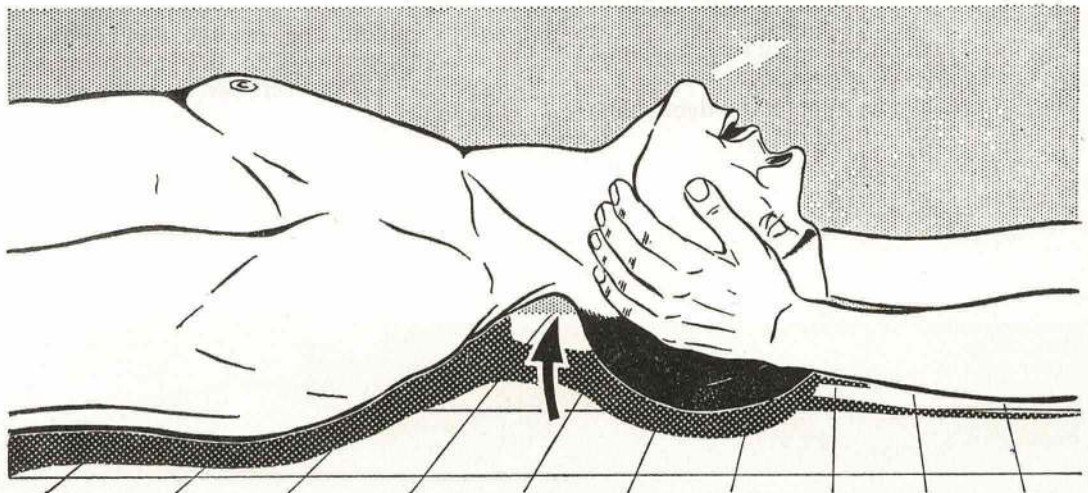

Fig. 11. IMPROVING AIR PASSAGE
50. The urgency of inflating the casualty's lungs, even though the air has to be blown past an obstruction in the throat or windpipe, cannot be overstressed. Delay of even one or two seconds may prove fatal. Therefore, if there is any doubt about the air passages, take the immediate action of inflating the lungs whilst simultaneously positioning the head and lower jaw to open the air passage. This is done by gripping the back of the head between the hands with the fingers gripping the angles of the jaw and, while extending the head backwards, pushing the jaw forward and upward (Fig. 11).